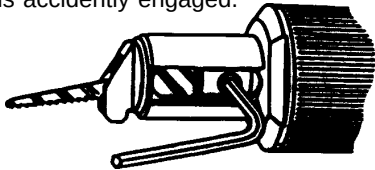

Figure 1
1. Twist front cover (Ref. No. 5) to expose the front left side of tool (See Fig. 1) and loosen blade lock screw (Ref. No. 4) with a standard 1/8" hex wrench.